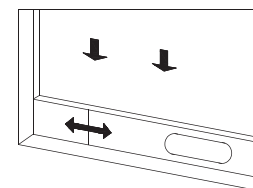
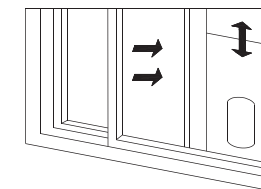

Figure 2
Figure 3
- Make the window half open; put the window seal plate component into the window (as shown in Figure 2 and Figure 3), either in vertical or horizontal position.